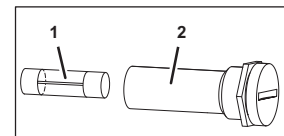

Fig. 41
2. Remove the fuse (Fig. 41/1) from the fuse holder (Fig. 41/2).
3. Position the new fuse (Fig. 41/1) within the fuse holder (Fig. 41/2).